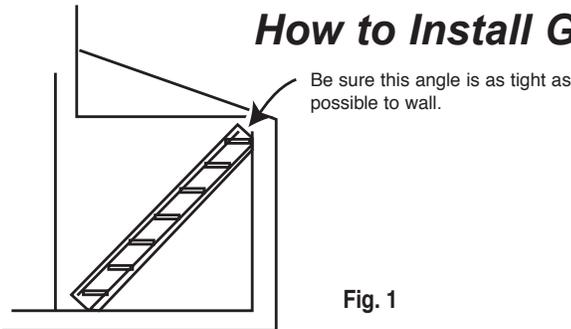

Fig. 1
**STEP 1** Set level on convenient eye level tread cut-out (fig. 1). Move GORDON STAIR STRINGER in and out/up and down so that top angle is as straight as possible to outer wall.